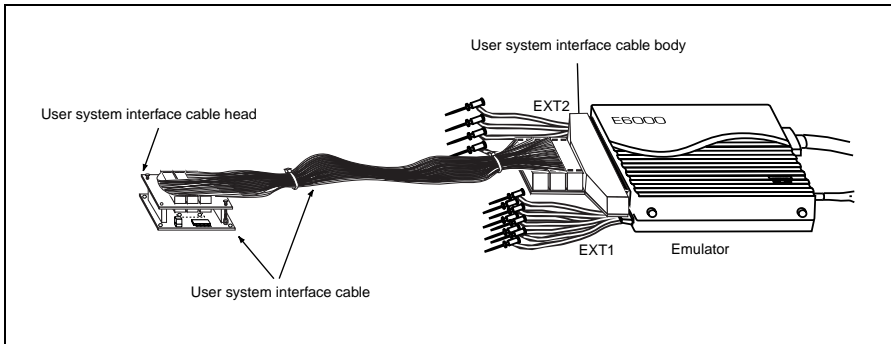

**Figure 2.4 Sequence of Screw Tightening**
- Screw the cable head to the socket with the screws provided. Progressively tighten the screws in the sequence shown in figure 2.4 until all are 'finger tight'.